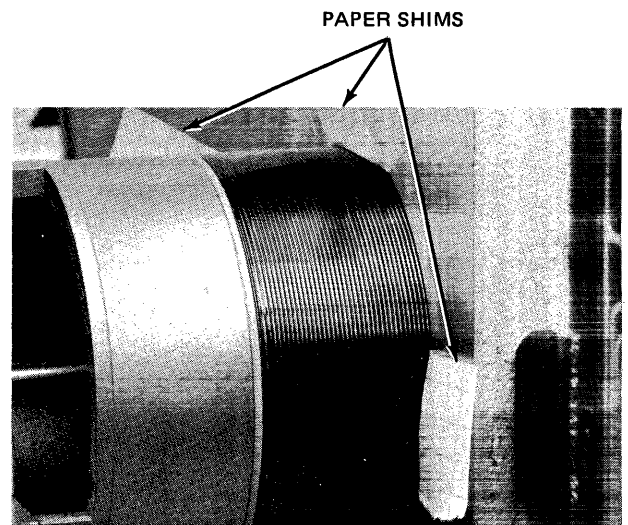

Figure 5-43. Bobbin Adjustment
- m. Insert three pieces of shimstock, such as a computer card, at top and sides of motor bobbin (see Figure 5-43).